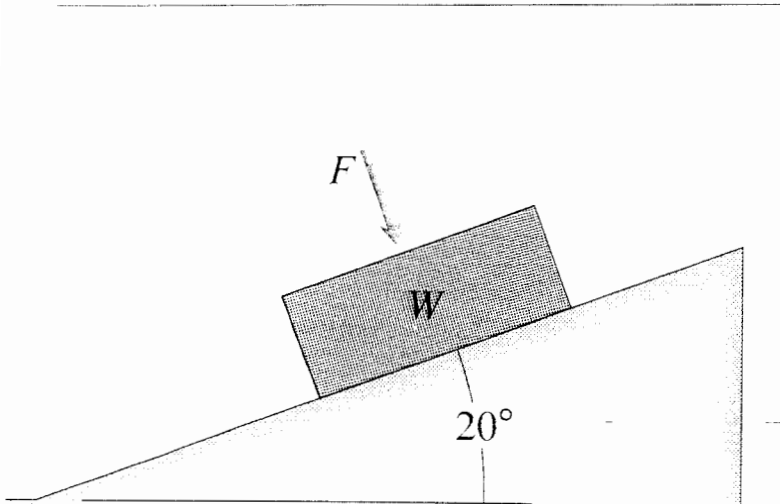

Fig. P1
- 1- The weight of the box, shown in Fig. P1, is  $W = 30$  kN, and the force  $F$  is perpendicular to the inclined surface. The coefficient of static friction between the box and the inclined surface is  $\mu_s = 0.2$ .